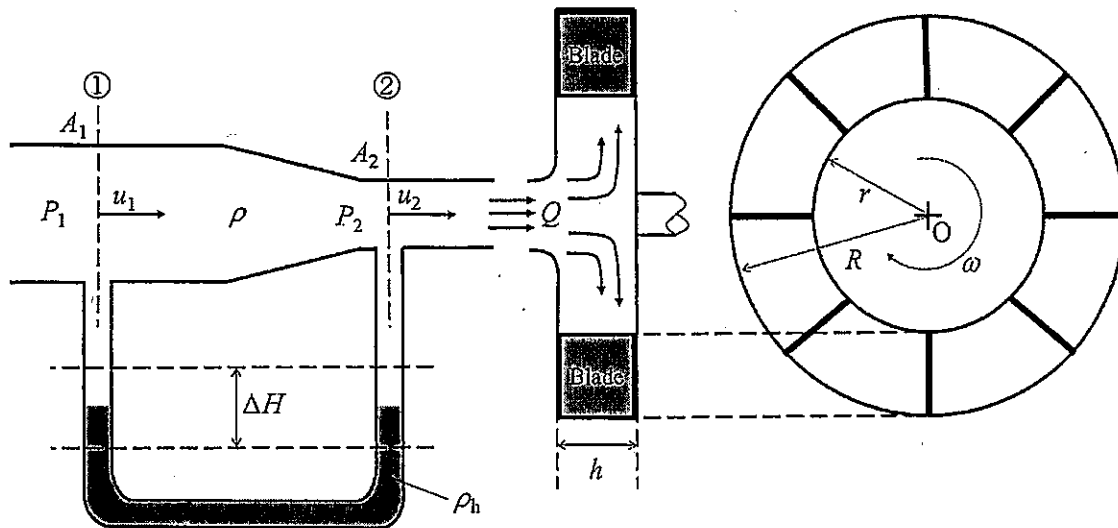

Figure 2-1
II. Consider a centrifugal pump as illustrated in Figure 2-1. Water with the density  $\rho$  flows into the centrifugal pump through the nozzle. A manometer is connected to the nozzle at the cross sections ① and ②, and mercury with the density  $\rho_h$  is used for the manometer. The area, the velocity, and the pressure at the cross sections ① and ② are denoted by  $A$ ,  $u$  and  $P$ , respectively, and the subscripts 1 and 2 denote the variables at the cross sections ① and ②, respectively. Here we assume  $A_1 > A_2$ . In addition, gravitational acceleration is denoted by  $g$ . Then, water from the nozzle flows into the impeller attached to the rotating shaft in the centrifugal pump. The inner and outer radii of the blades of the impeller are  $r$  and  $R$ , respectively, and their height is  $h$ . The impeller is rotating around the point  $O$  with the torque  $T$ , and it is assumed that it rotates at the constant torque regardless of the flow rate. A swirling component of the inflow to the centrifugal pump is negligible, and the effect of gravity in the centrifugal pump is negligible. Answer the following questions.
- (1) When water is flowing, answer which liquid level of the manometer at the cross section ① or ② becomes higher.
- (2) Obtain the flow rate  $Q$  when the height difference in liquid levels between the cross sections ① and ② becomes  $\Delta H$ .
- (3) Obtain the angular velocity of the impeller  $\omega$  using the flow rate  $Q$ .
- (4) Calculate how many times larger the angular velocity of the impeller becomes comparing to the angular velocity obtained in Question (3) when the height difference in liquid levels between the cross sections ① and ② changes to  $2\Delta H$ .